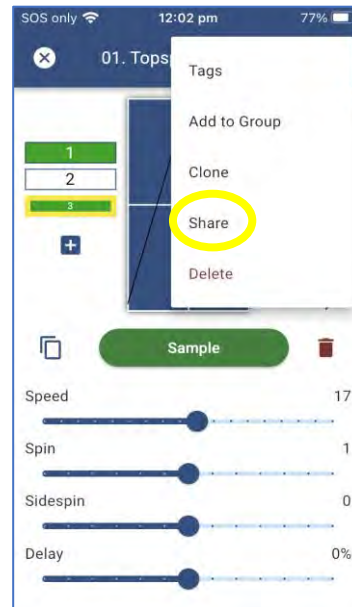

Figure 3-60
3. From the menu provided, choose Share. (Figure 3-60)